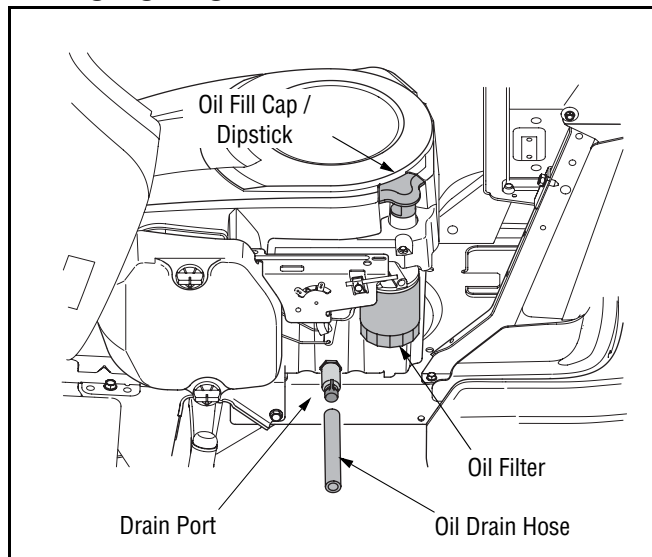

Figure 16
- Unscrew oil fill cap and remove dipstick from the oil fill tube. See Figure 16.
- Pop open the protective cap on the end of the oil drain valve to expose the oil drain port. See Figure 16.